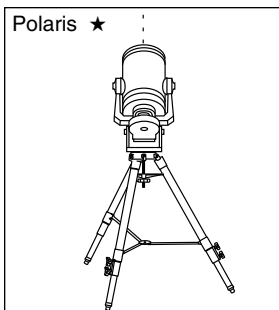

Fig. 22: Mount too far East.
- If the star drifts South (or down), the telescope's polar axis is pointing too far East (Fig. 22).
- Move the wedge in azimuth (horizontally) to effect the appropriate change in polar alignment. Reposition the telescope's East-West polar axis orientation until there is no further North-South drift by the star. Track the star for a period of time to be certain that its Declination drift has ceased. (Please note that Figs. 22, 23, 24, and 25 show the telescope pointed in the 90 degree position, and not the 0 degree position that is required for "Drift" method alignment. This is done to illustrate the position of the pole star relative to the polar axis of the telescope.)